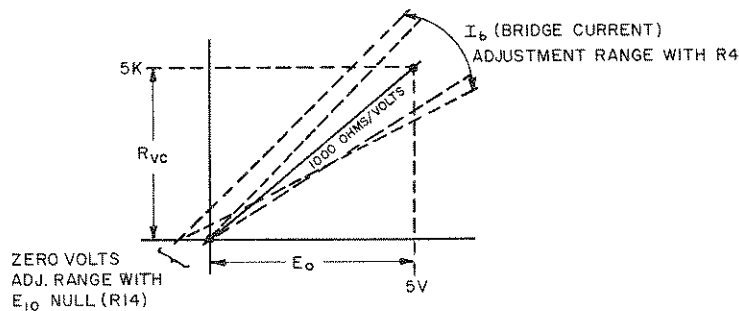

FIG. 3-5 ESTABLISHING PROGRAMMING LINEARITY
- FIG. 3-5 below shows graphically how the programming ratio can be precision adjusted.